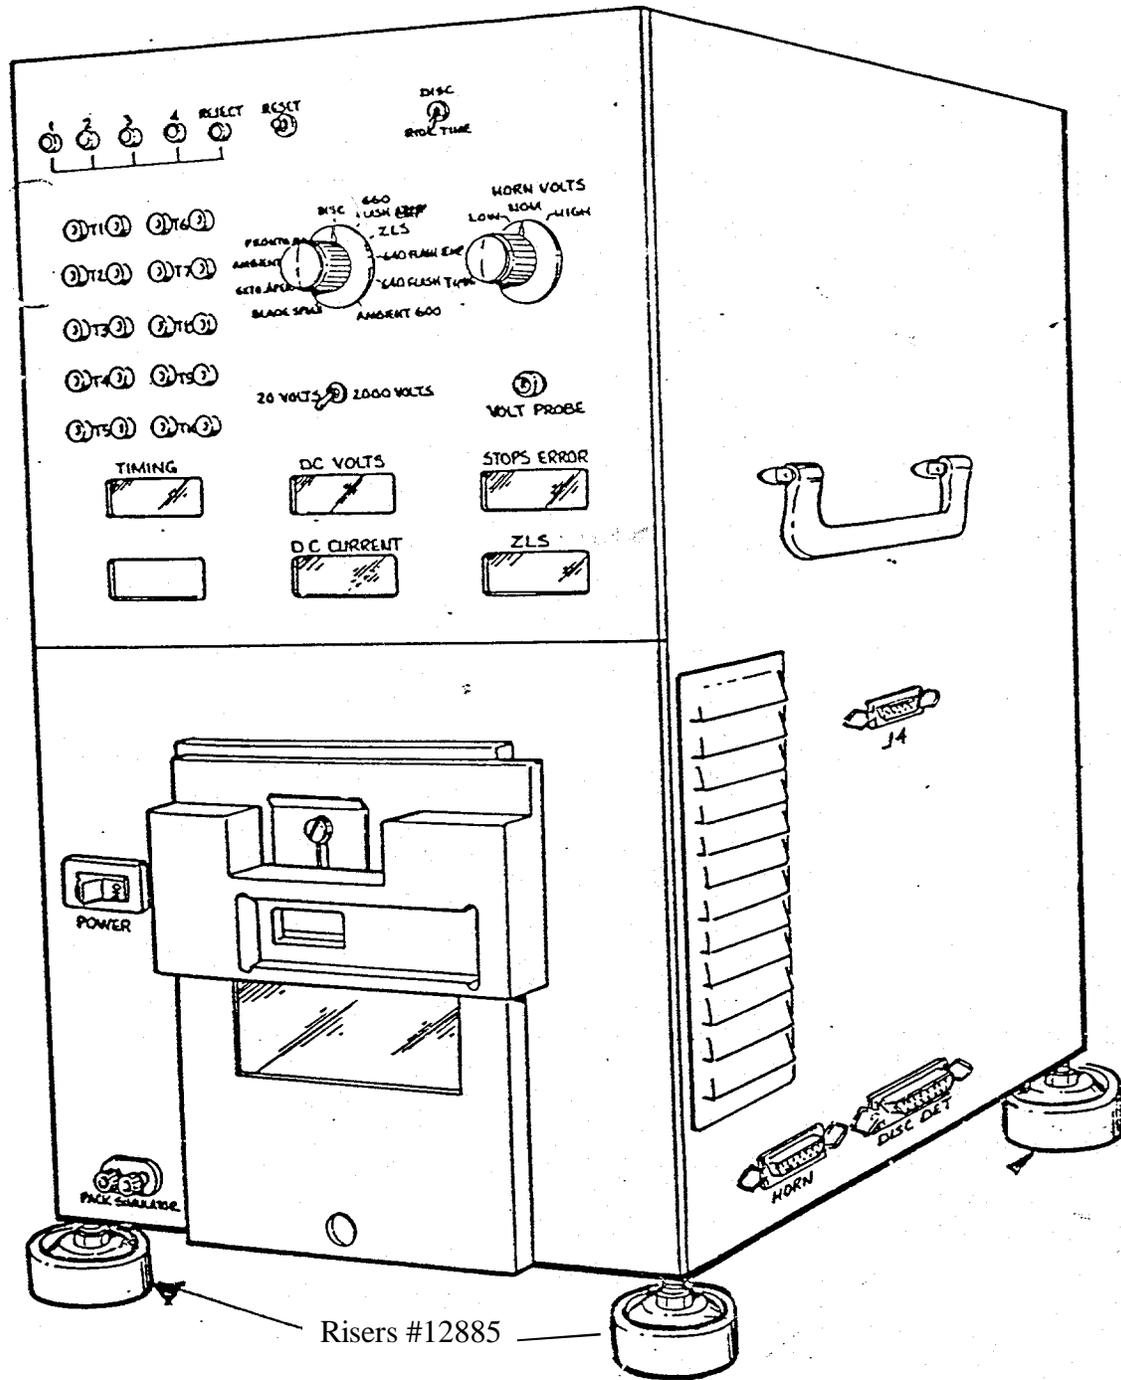

Fig. 4 Installing Risers under Tester's leveling legs
- Remove the horn with mounted camera from the proximity of the tester. Carefully, tilt the tester and install two risers #12885 under the leveling legs. Tilt the other side of the tester and install two more risers under the two remaining leveling legs (Figure 4).